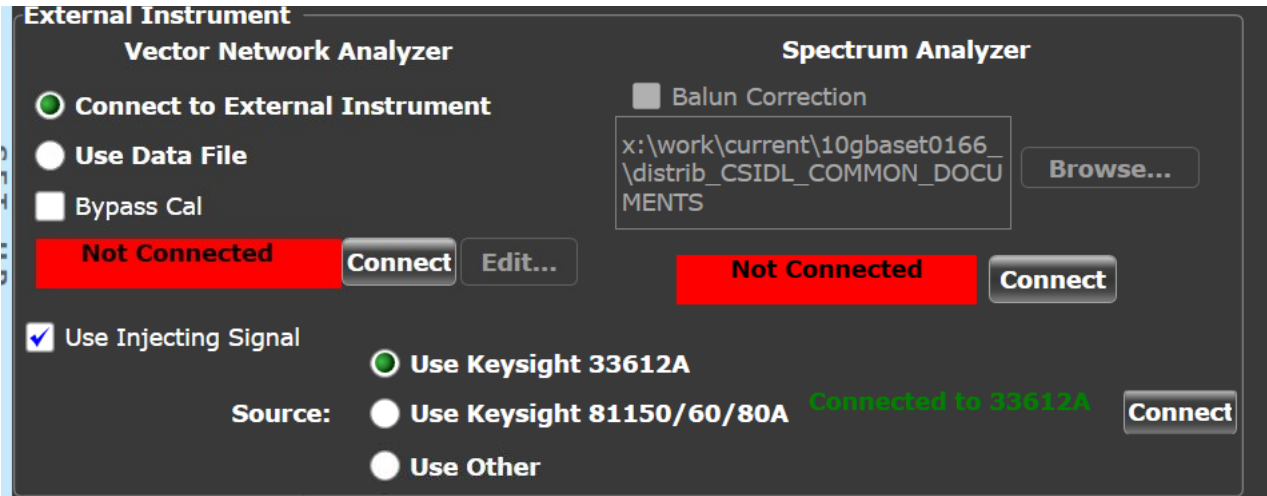

Figure 37 Connection status after the Application detects the Injecting Signal Source
- 14 Once the 10GBASE-T Ethernet Test Application detects the Injecting Signal source, it is indicated on the **Set Up** tab as shown in Figure 37.